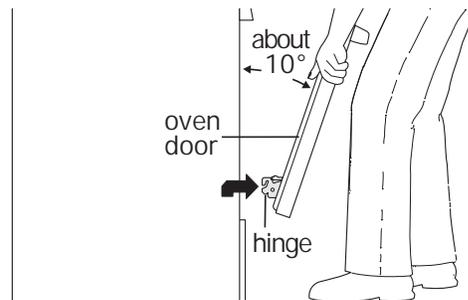
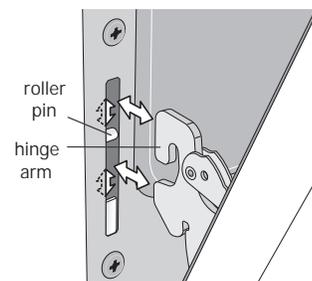

Figure 32: Holding door for removal
Figure 33: Replacement and location of hinge arm and roller pin
3. Firmly grasp both sides of oven door along the door sides. Do not use the oven door handle (See Figure 32).
4. Close the door to approximately 10 degrees from the door frame (See Figure 32).
5. Lift the oven door hinge arms over the roller pins located on each side of the oven frame (See Figure 33).
1. Firmly grasp both sides of oven door along the door sides. Do not use the oven door handle (See Figure 32).
2. Holding the oven door at the same angle as the removal position, seat the hook of the hinge arm over the roller pins located on each side of the oven door frame (See Figure 32 and Figure 33). The hook of the hinge arms must be fully seated onto the roller pins.